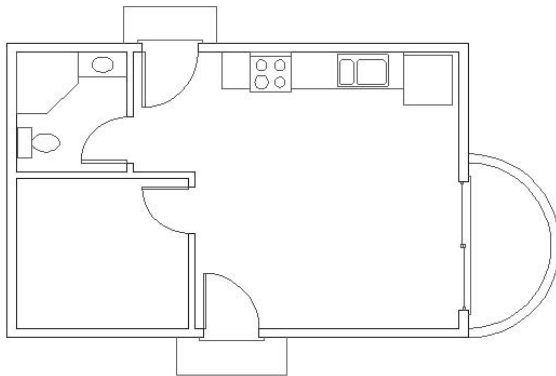

FIGURE 7.11: The floor plan with all swinging doors converted into blocks
6. Zoom Previous (see Figure 7.11).